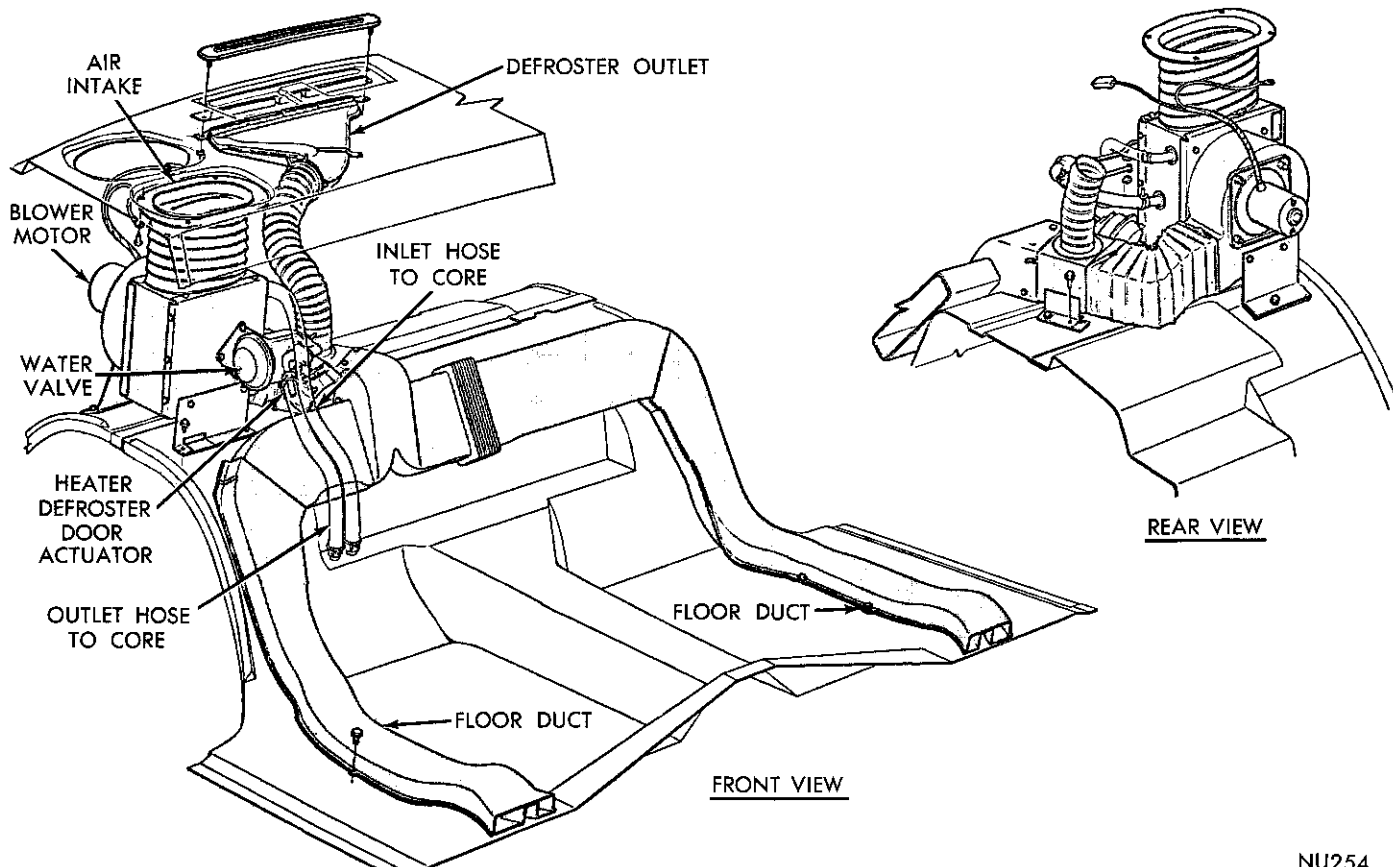
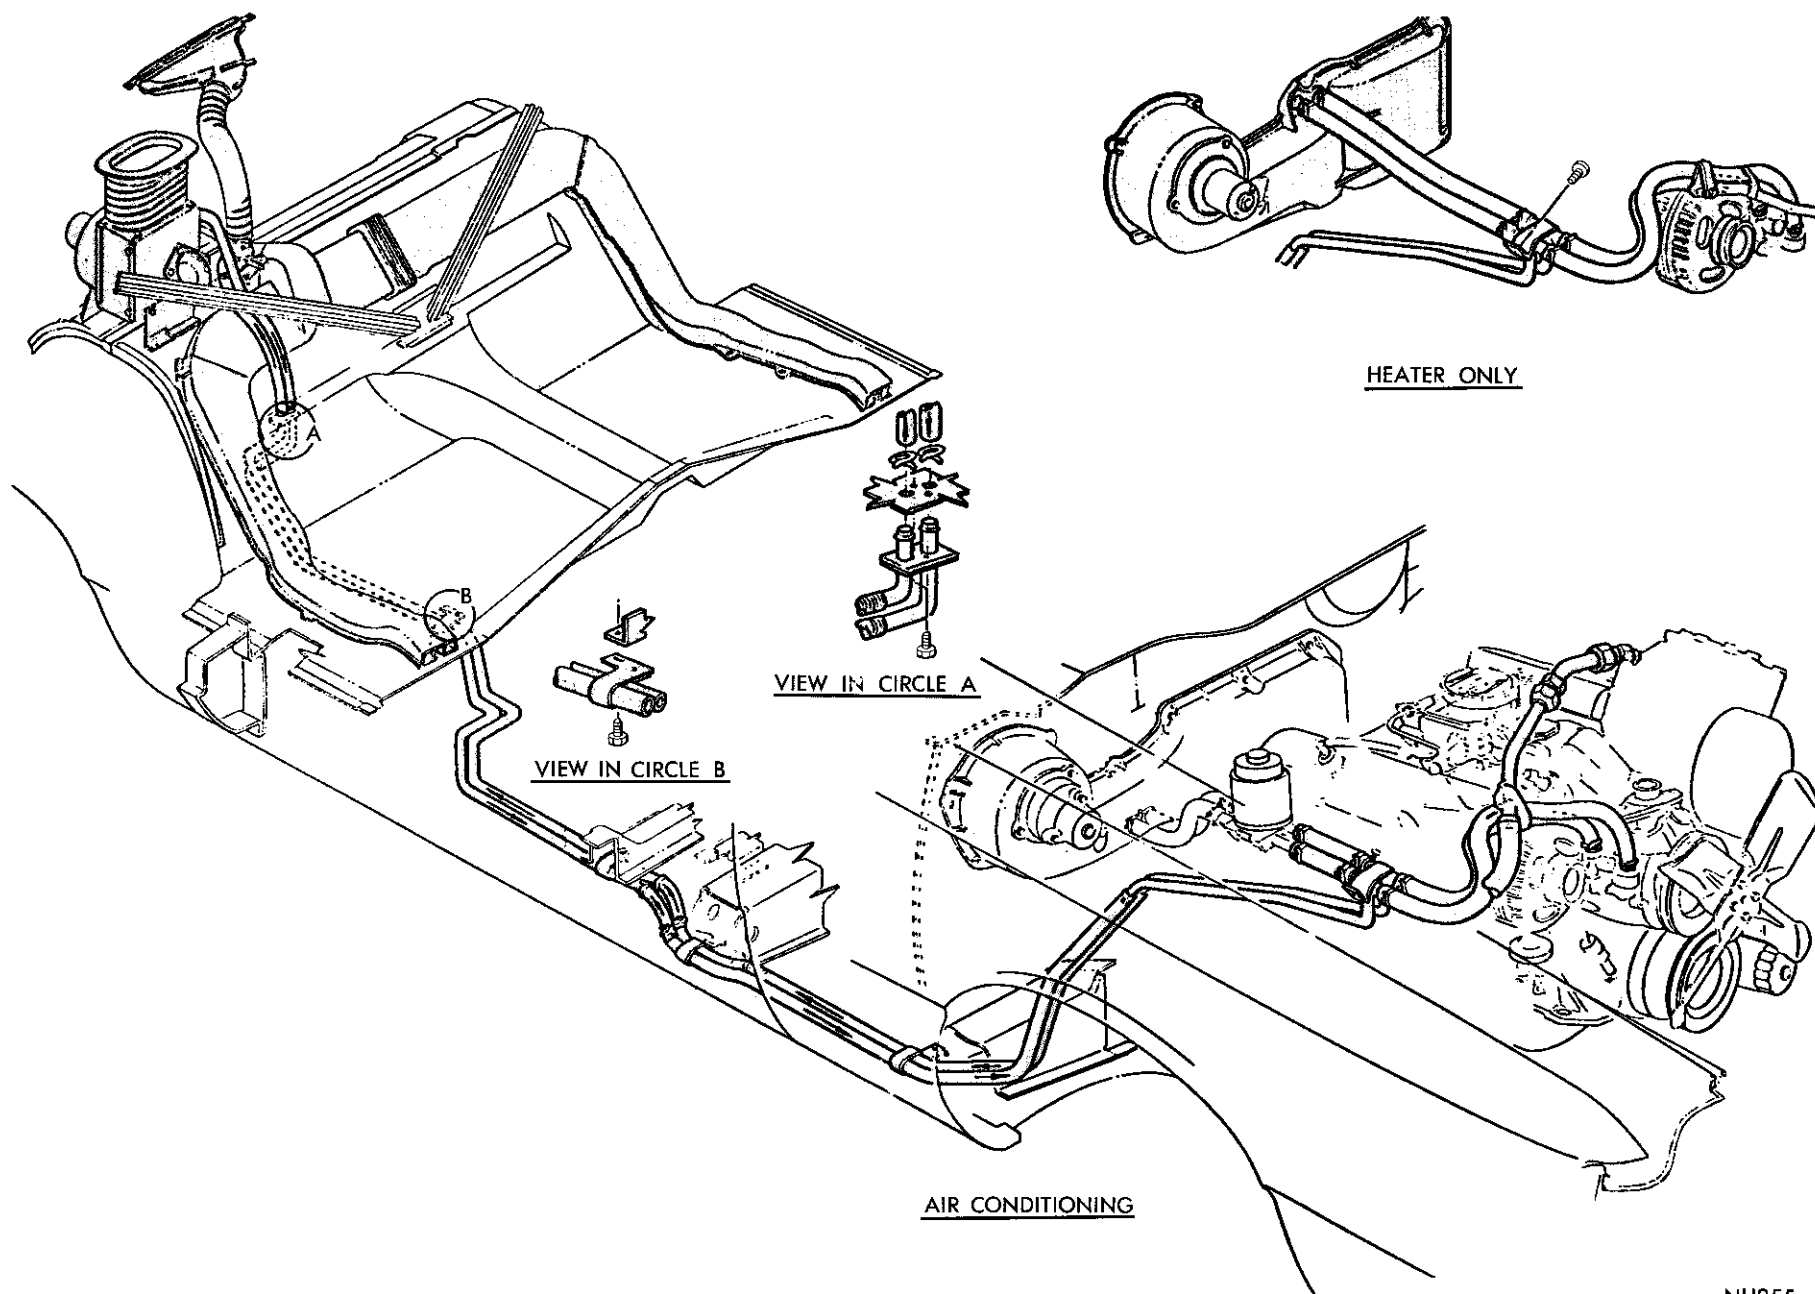

Fig. 4—Rear Seat Heater
Fig. 5—Rear Seat Heater Hose Connections
- (1) From under the car, remove two heater hose clamps at the junction of the front and rear tube assembly and drain system (Fig. 5).
- (2) Remove rear seat cushion and back seat.
- (3) From inside car, remove two heater hose clamps and hoses from the heater.
- (4) Remove spare tire from luggage compartment.
- (5) Disconnect motor feed wire, fresh air intake hose and flexible blower discharge duct.
- (6) Remove the four metal screws from mounting brackets and remove heater to the bench for servicing (Fig. 4).
Replacement of the floor air ducts is accomplished by removing the seat back and seat cushion. The ducts are fastened to the floor pan with sheet metal screws. (Fig. 4).